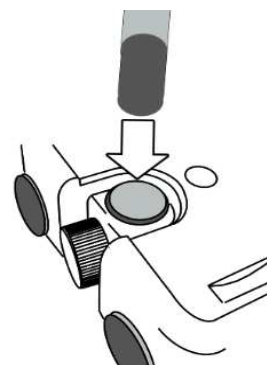

Fig.3
3. Hit Launching Button with a pen or a mechanical pen etc., instead of your figure, to release BSP (see Fig.3).